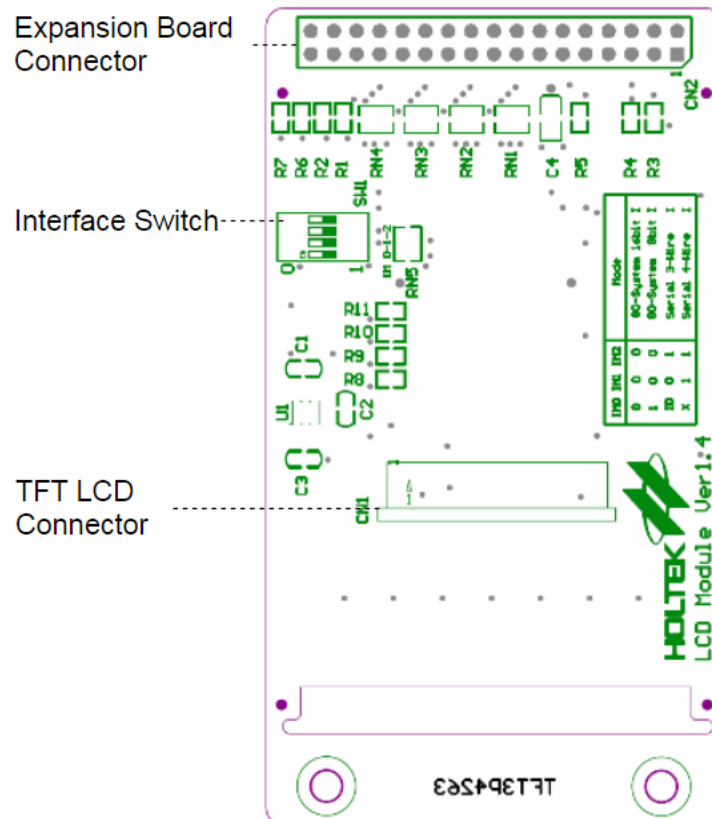

Figure 1. TFT LCD Module Layout
- Figure 1. TFT LCD Module Layout 5